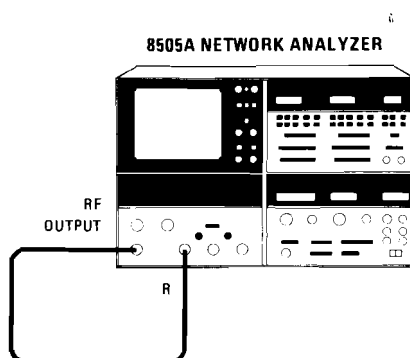
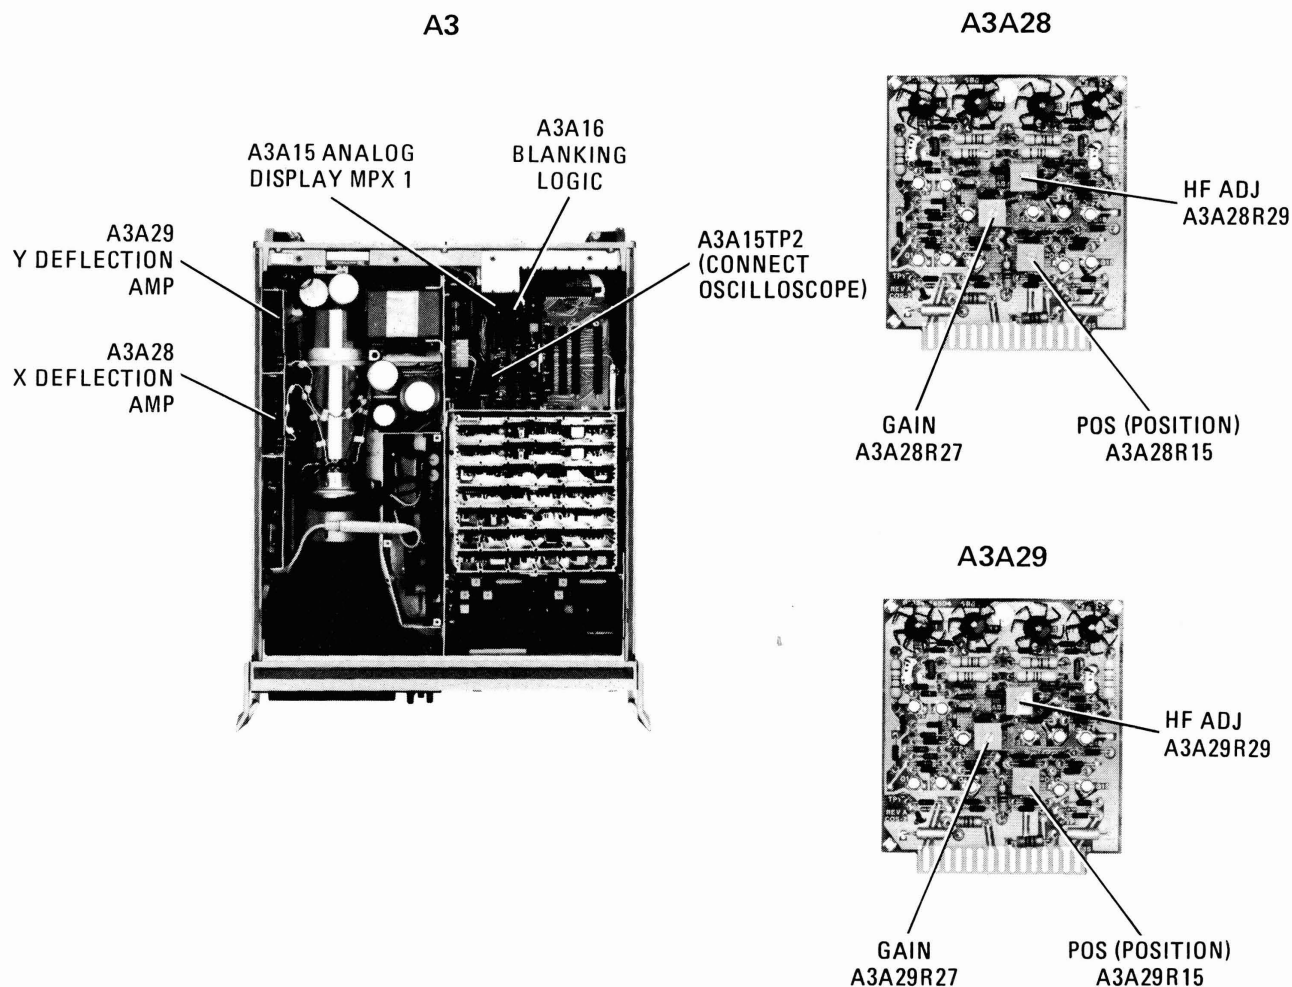

Figure A5-22. Display Multiplex and Deflection Amplifiers Test Setup
Figure A5-23. Adjustment Locations for X and Y Deflection Amps
- b. Connect equipment as shown in Figure A5-22.
- f. Connect DVM to A3A15TP2. Refer to Figure A5-23.
b. Connect equipment as shown in Figure A5-22. Put A3A28 X-Deflection Amplifier on extender board (See Figure A5-23).
- l. Remove Blanking Logic A3A16 (see Figure A5-23) and install 18-pin extender board in its place. Connect pulse generator output to pin 22 of extender board.
- a. Put A3A29 Y-Deflection Amplifier on extender board (see Figure A5-23). Set 8505A controls as follows:
- f. Set CH1 REF LINE POSN control on Display panel for 0.000 Vdc \pm 0.005 Vdc indication on DVM and adjust "POS" control A3A29R15 to place CRT trace on center graticule line. (See Figure A5-23.)